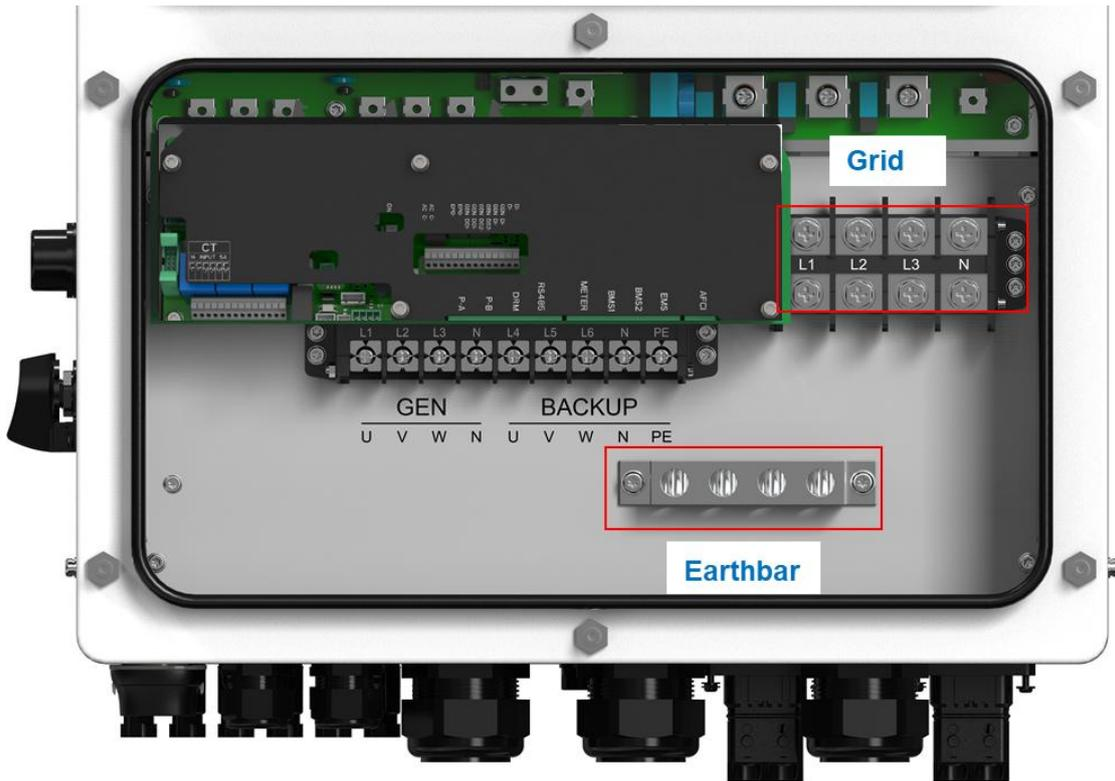

Figure 5-17 Connection for power grid
1. About local grid connection with inverter. Please refer to Figure 5-17 for the wiring procedure: